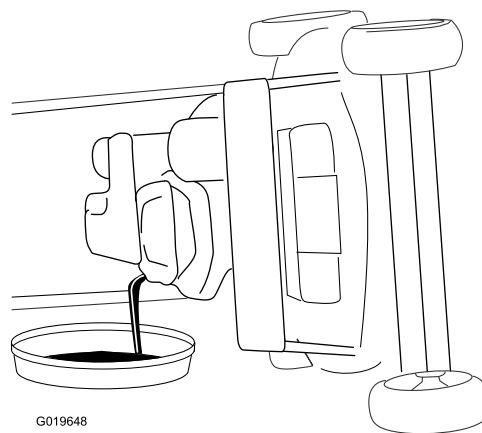

Figure 23
6. Tip the machine, with the air filter up, to drain the oil into the drain pan (Figure 23).